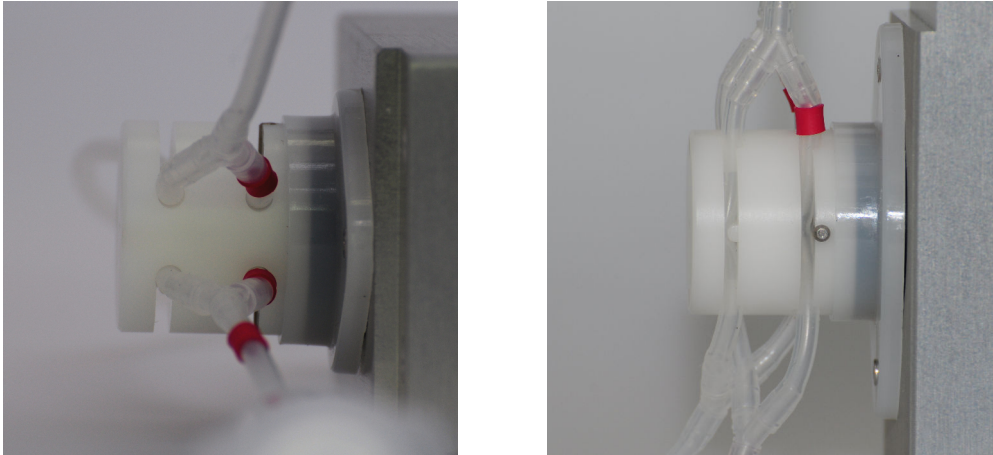
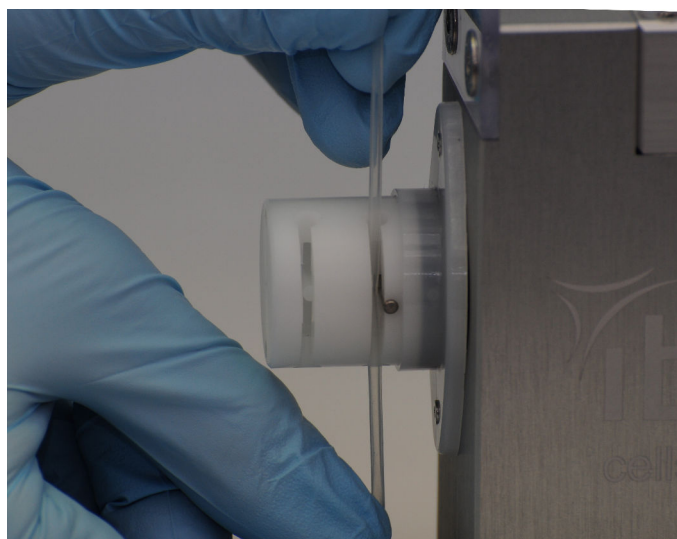

Figure 25: Top view (left) and side view (right) of properly mounted tubing in the pinch valve.
Figure 26: Move the tubing up and down while stretching for easy placement into the valve slots.
6. Check the correct position of the tubing in the openings of the pinch valve (Figure 25).
For easy mounting, stretch the tubing and move it up and down. Stretch the tubing only between the y-connectors to ensure the tubing is not disconnected (Figure 26).
If the liquid is moving in one or both of the positions, check the insertion of the tubing in the pinch valve. Stretch the tubing and move it up and down for proper placement in the valve’s slot (Figure 26). Also check the correct allocation of the tubing (Figure 25). If this action does not correct the problem, contact ibidi or your local distributor.